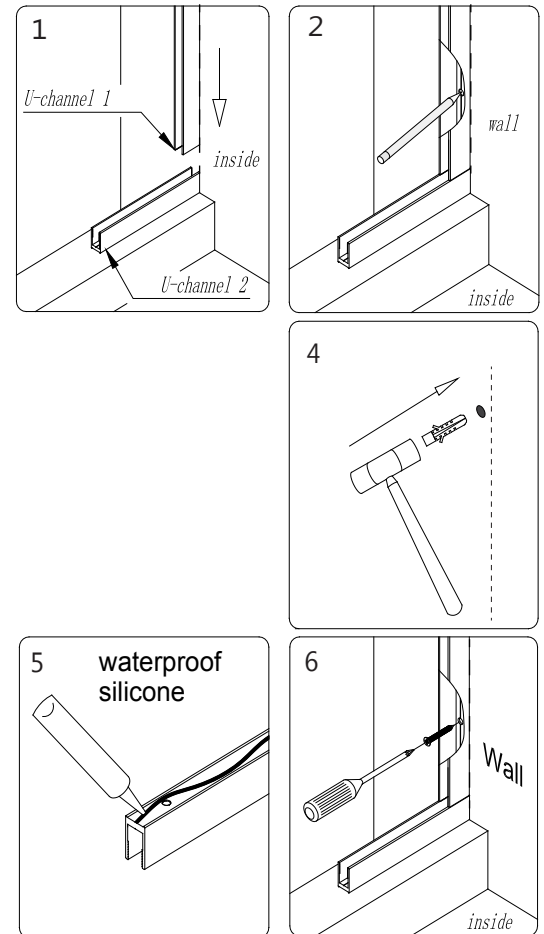

Fig 16
- Apply silicone to the back of the **U-channel 1 (#09) (wall profile)** and attach it to the wall using the **ST4.2 x 40mm screws (#23)**. (**Fig 16**)